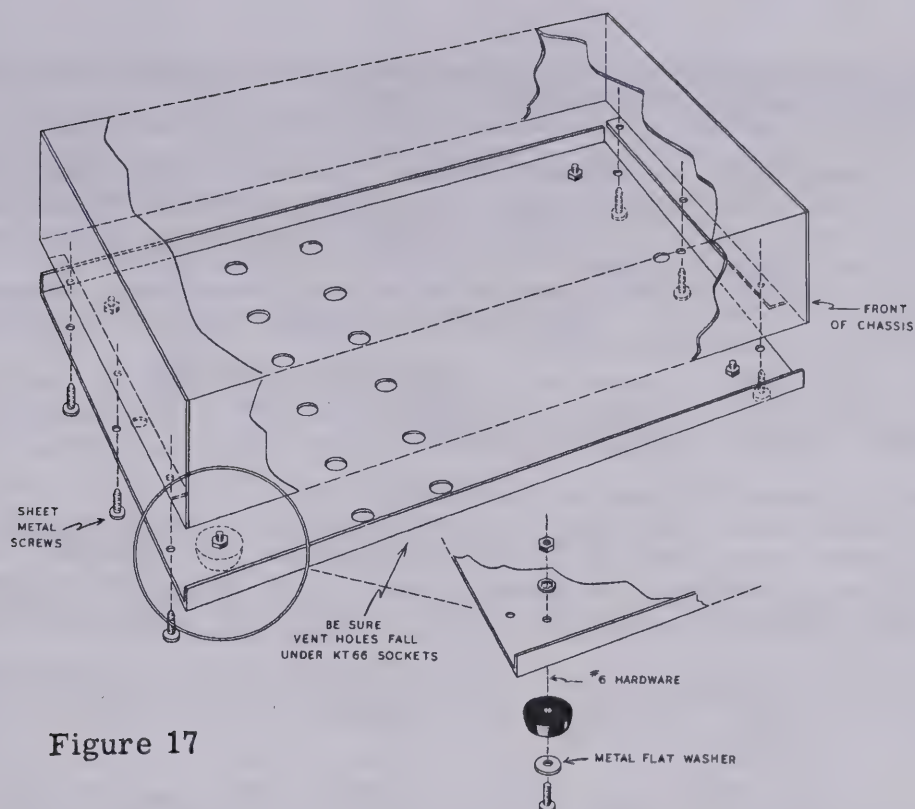

Figure 17
Now attach the four rubber feet to the bottom cover, following Figure 17 for details of the assembly. Use 6-32 hardware.
- () Mount the bottom cover on the chassis bottom, using the #6 sheet metal screws furnished. See Figure 17. Make sure the ventilating holes are directly under socket V3, V4 and V5.